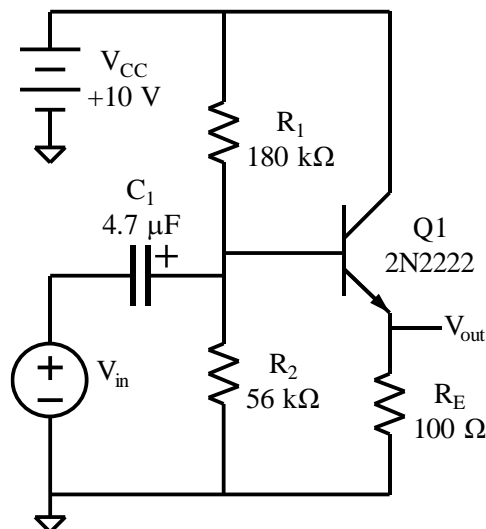

Fig. 4. Common-collector amplifier.
5. Consider the circuit in Fig. 4.
CC, Fig. 4